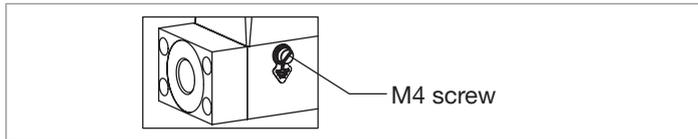
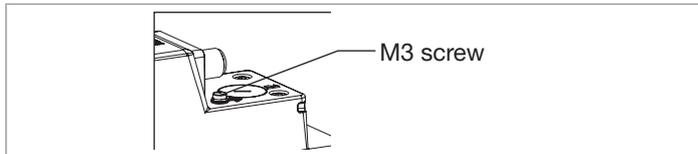

Fig. 19: Location of the M4 screw for the connection of the functional earth cable
Fig. 20: Location of the M3 screw for the connection of the functional earth cable
- With a flat screwdriver of size 6.5 mm, loosen the M4 screw. Refer to Fig. 19. Or loosen the M3 screw. Refer to Fig. 20.